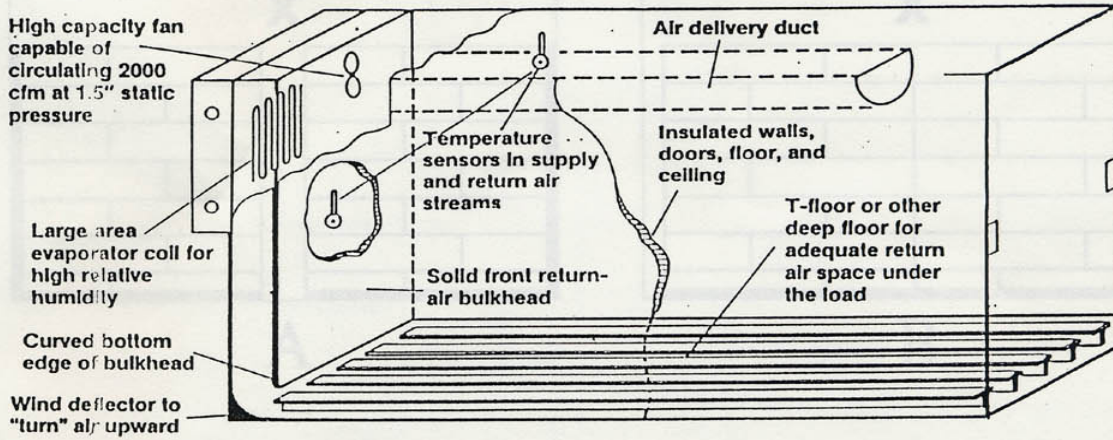

Fig. 1
- ✓ Ensure that the pallet carton's holes are facing front and back. (Refer to figures 1 and 2).
- Where the vehicle is not fitted with a T-bar floor, loads must be placed on pallets at all times to create a passage for the air to return to the evaporator, and also to keep the load off the floor through which heat is conducted from the road. Maximum load height including the pallet must not exceed 2,1m. Leave at least a 150mm opening between the load and the ceiling. (Refer to figure 1).
5. Do not load higher than 2,1m including the pallet. Leave at least 150mm between the load and ceiling. (Refer to figure 1 and 2).